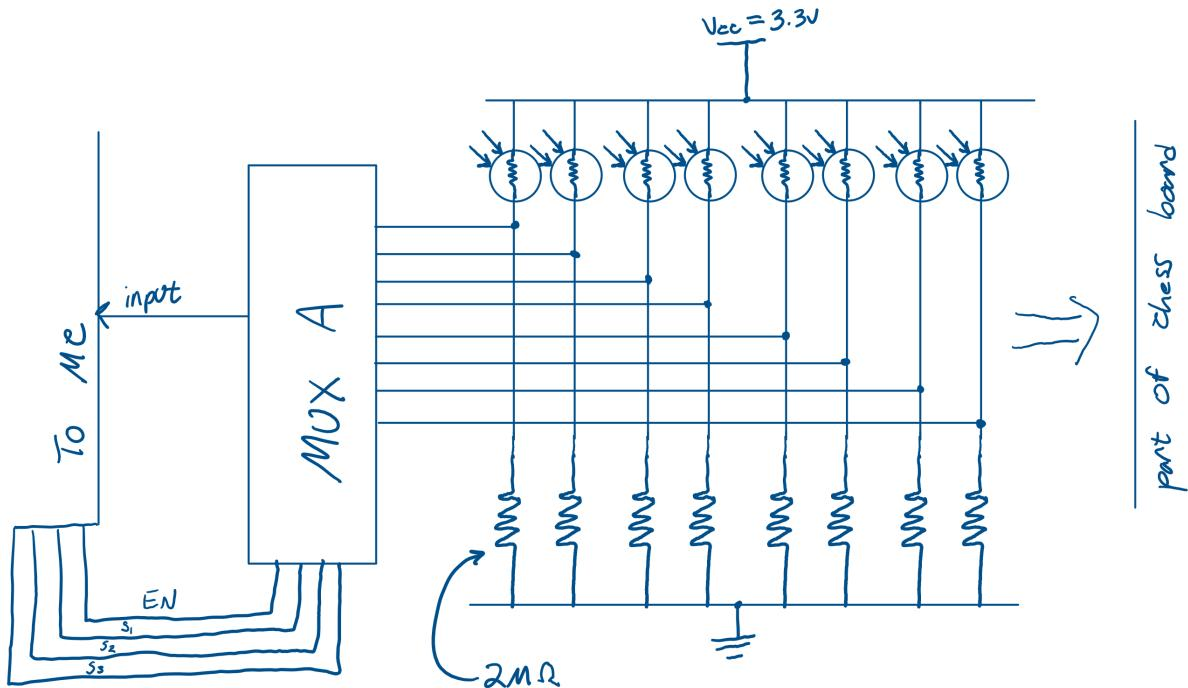

Figure 3: Multiplexer Sudo Circuit Diagram
The Chess board will have 1 LED and 1 photoresister per block. The LED will be drilled and placed on the top left side of each block and will be used to show the user where to place each piece. The photoresister will be drilled in the middle of each block and will be used as a voltage drop to tell if there is a piece there or not. See Figure 3 for the circuit layout.
Figure 3 shows the sudo circuit for Muxltiplexer A, the puzzle me chess project will consist of 8 Muxltriplexer one for each column A-H. Each of the Muxltriplexers will have 8 outgoing lines that will read Voltages levels from the rows # 1-8. Each row will have one resister which is set to be $2M\Omega$ and one Photoresister in series. Each Photoresister has two modes a light and a dark mode. Equation (1) shows Mux input voltage at 3.29VDC and equation (2) shows Mux input voltage at 2.2VDC.